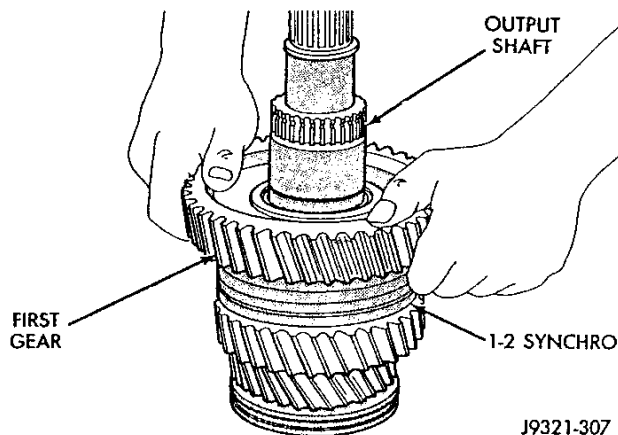

Fig. 44 First Gear Installation
(13) Install first gear on mainshaft (Fig. 44). Work gear back and forth until blocker ring seats in synchro assembly.